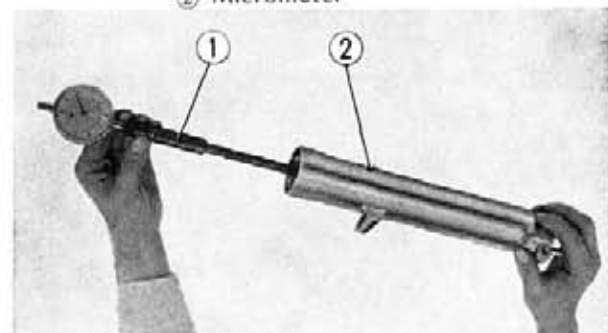

Fig. 11-18 ① Cylinder gauge ② Bottom case
4. Measure the inner diameter of the front fork bottom case. Use a cylinder gauge to perform this check and if it is found to be over than 1.562 in (39.68 mm), the front fork bottom case should be replaced. (Fig. 11-18)